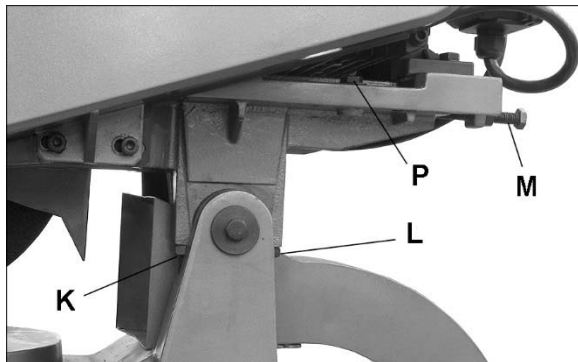

Figure 7-2
See Figure 7-2.
The *front* stop screw (K, Figure 7-2) limits blade depth of cut. The *rear* stop screw (L) limits return motion of head. These stops have been set by the manufacturer. If future adjustment is needed:
2. Slightly loosen two screws (P, Figure 7-2) and slide motor forward to de-tension belts.
4. Slide motor back and tighten screws (P).
5. Belt tension can be adjusted by loosening hex nut on tension screw (M, Figure 7-2) and turning tension screw which moves the motor mount slide plate.